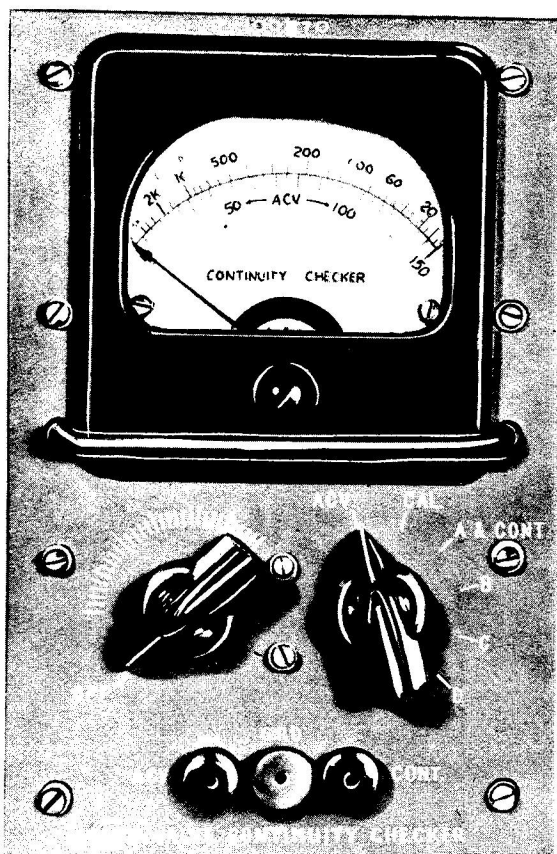
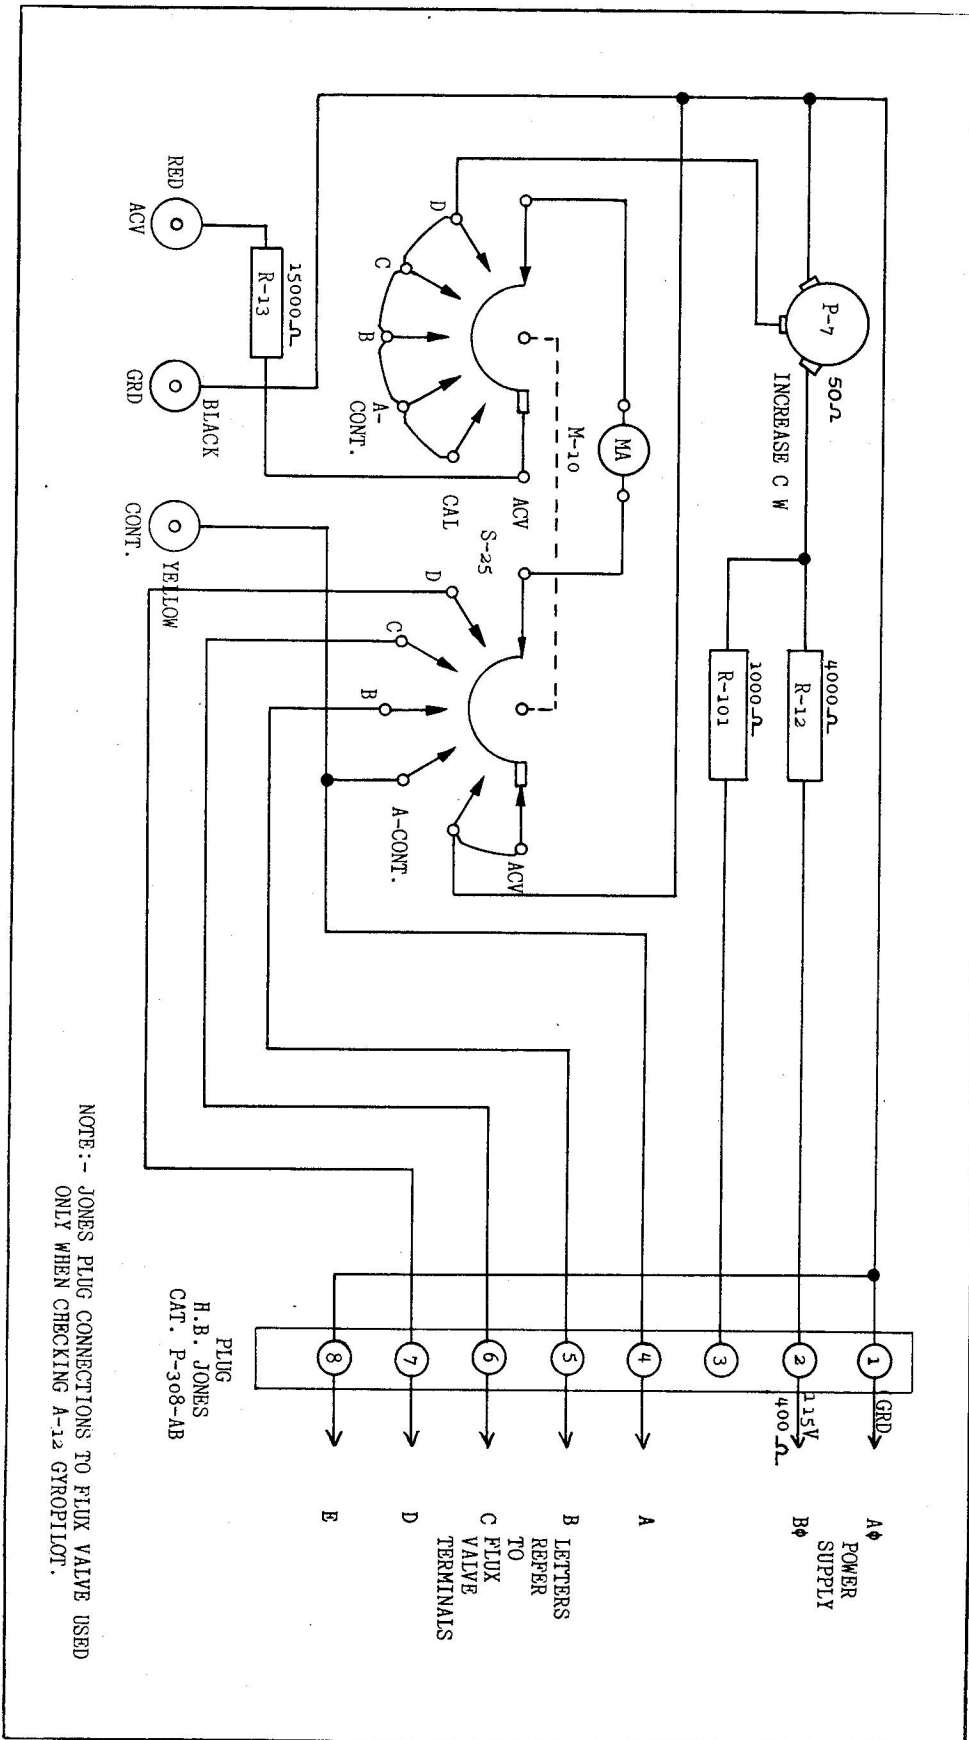

FIGURE 5-2 FLUX VALVE CONTINUITY CHECKER
Figure 5-3 - Schematic Wiring Diagram of Continuity Checker T-100870
For performing the continuity test use only the Flux Valve Continuity Checker T-100870 (figure 5-2), or an equivalent approved a-c meter, in order to prevent damage to the flux valve core. (Refer to figure 5-3) for the schematic wiring diagram of the Flux Valve Continuity Checker).
a. Turn the rheostat of the Continuity Checker T-100870, figure 5-2, to "OFF" and the selector switch to "CAL" (calibrate).